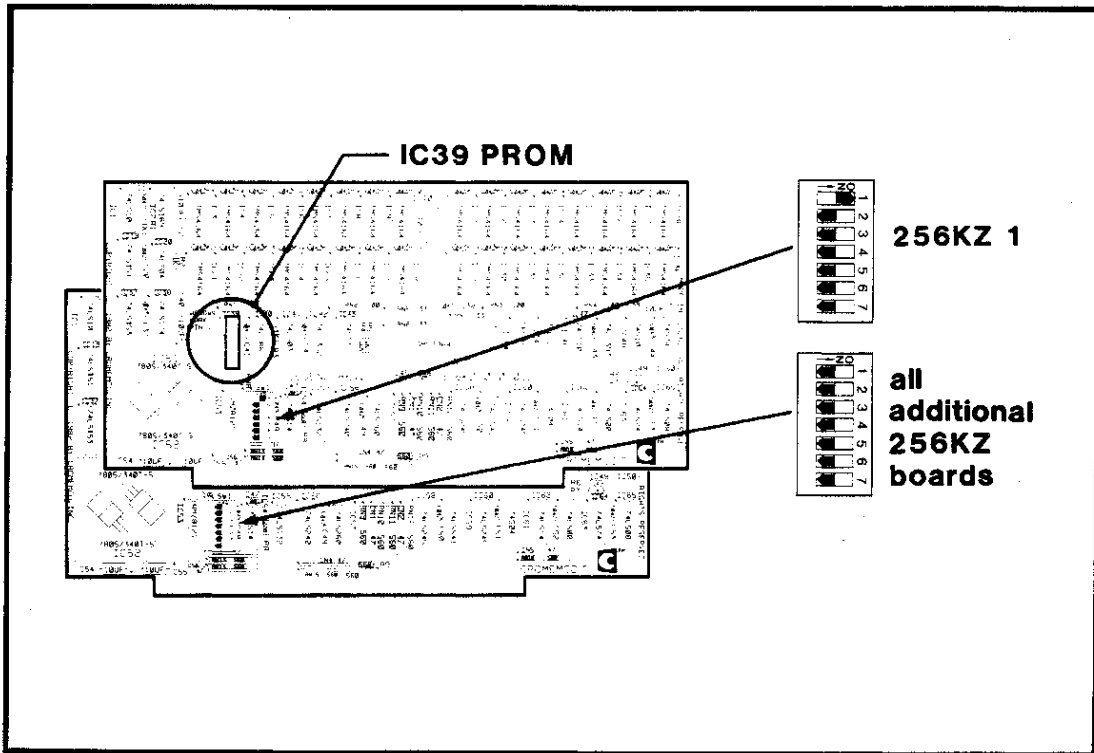
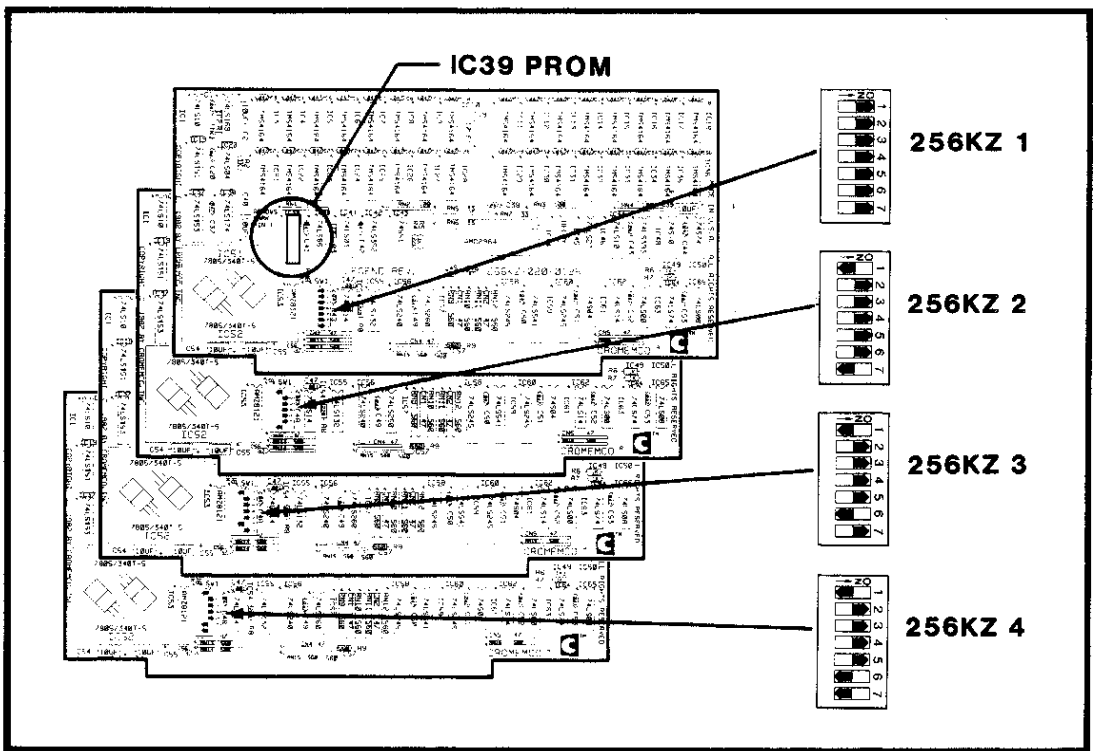

Figure F-4: SWITCH SETTINGS FOR 256KZ BOARDS
Figure F-5: SWITCH SETTINGS FOR 256KZ BOARDS
**256KZ Board** - This is a Random Access Memory board with 256K bytes of memory. One of these boards comes with models CS-3D2 and CS-3HD2. Figure F-4 shows the proper switch settings for 256KZ boards in a Z80-based system. Figure F-5 shows the proper switch settings for up to four 256KZ boards in a 68000-based system. If more than four 256KZ boards are used, refer to the 256KZ manual for the proper switch settings.